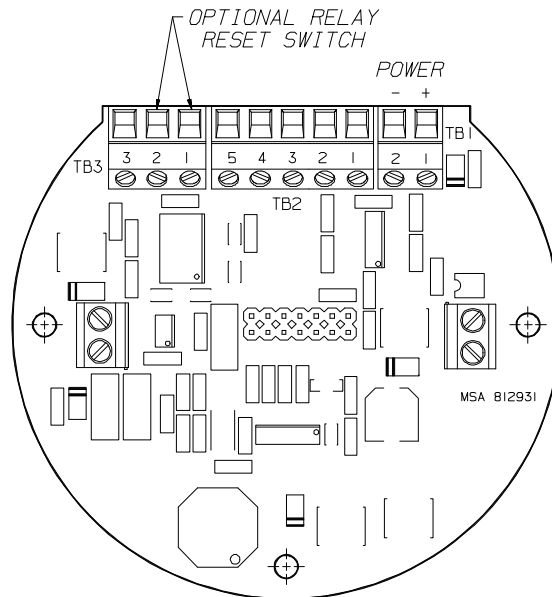

Figure 1-4.
3. The RESET pushbutton wiring connection is made via terminal block TB3, positions 1 and 2 (FIGURE 1-4). Route the pushbutton wires through the opening of the relay module to terminal block TB3.